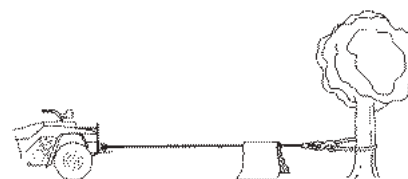

Figure 3
10. It is a good idea to lay a heavy blanket or jacket over the wire rope near the hook end when pulling heavy loads. If a wire rope failure should occur, the cloth will act as a damper and help prevent the rope from whipping. (Figure 3)